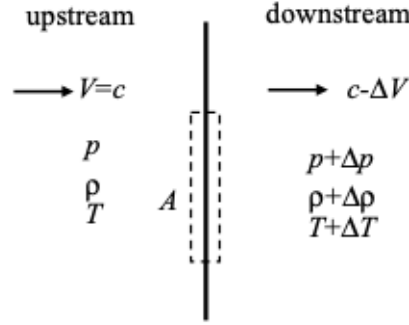

FIGURE 13.9. A thin control volume applied across the pressure wave.
of Mass and the Linear Momentum Equation to a thin control volume of cross-sectional area A surrounding the wave (Figure 13.9). From Conservation of Mass,
- The change in the properties across a sound wave can be found from the following analysis. From Conservation of Mass applied to the control volume shown in Figure 13.9 and Eq. (13.42), making